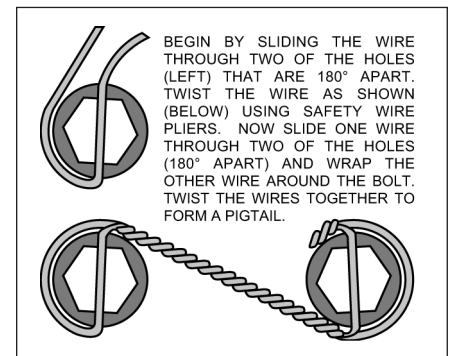

Figure 3. Safety Wire Diagram
- Pack the large inner bearing cone (7) with high temperature disc brake bearing grease (available from your local auto parts store) and install into the backside of the hub (6).
- Install the grease seal (8) by pressing into the backside of the hub (6).
- Pack the small outer bearing cone (13) with high temperature disc brake bearing grease and install into the front side of the hub (6). Lightly coat the spindle bearing surfaces with bearing grease. Slide the hub assembly (5, 6, 7, 8 and 13) onto the spindle. Secure using spindle washer (14), existing adjusting nut and nut locking device. Adjust wheel bearing pre-load per Original Equipment Manufacturer (OEM) specifications.
- Install the o-ring (15) and the dust cap (16) into the hub (6). Friction created by the o-ring (15) on the dust cap (16) keeps it from unscrewing. The O.D. of the existing spindle washer may be larger than the I.D. of the dust cap (16) which may allow the washer to contact the dust cap (16). Use the spindle washer (14) supplied with the kit instead of the stock washer.
- With the larger I.D. side of the rotor (9) facing away from the hat (11), bolt rotor (9) to hat (11) through the backside of the rotor using bolts (10). Torque bolts (10) to 180 **in-lb**. Safety wire bolts (10), see Figure 3.
- Slide the rotor/hat assembly (9, 10 and 11) over the wheel studs (5) in the hub (6) taking care to align the small countersunk holes in the hat (11) with the small threaded holes in the hub (6) Install three flat head socket head screws (12) through the small holes in the hat (11) and torque to 85 **in-lb**.
- With the bleed screws pointing up, mount the caliper (17) onto the caliper bracket (1) using two bolts (20), two lock washers (19) and two shim washers (18). Finger tighten. View the rotor (9) through the top of the caliper (17). The rotor (9) should be aligned in the center of the caliper (17). If not, loosen the two bolts (20) and adjust the caliper (17) by using 0.032 inch thick shim washers (18). The shim washers (18) should be placed between the caliper (17) and the caliper bracket (1). Finger tighten and recheck alignment. Loosen the two bolts (20) and apply red *Loctite*® 271 to bolt threads (20) and torque to 30 ft-lb. Safety wire the two bolts (20).
- Install the disc brake pads (21) into the caliper (17) and secure using cotter pin (24).